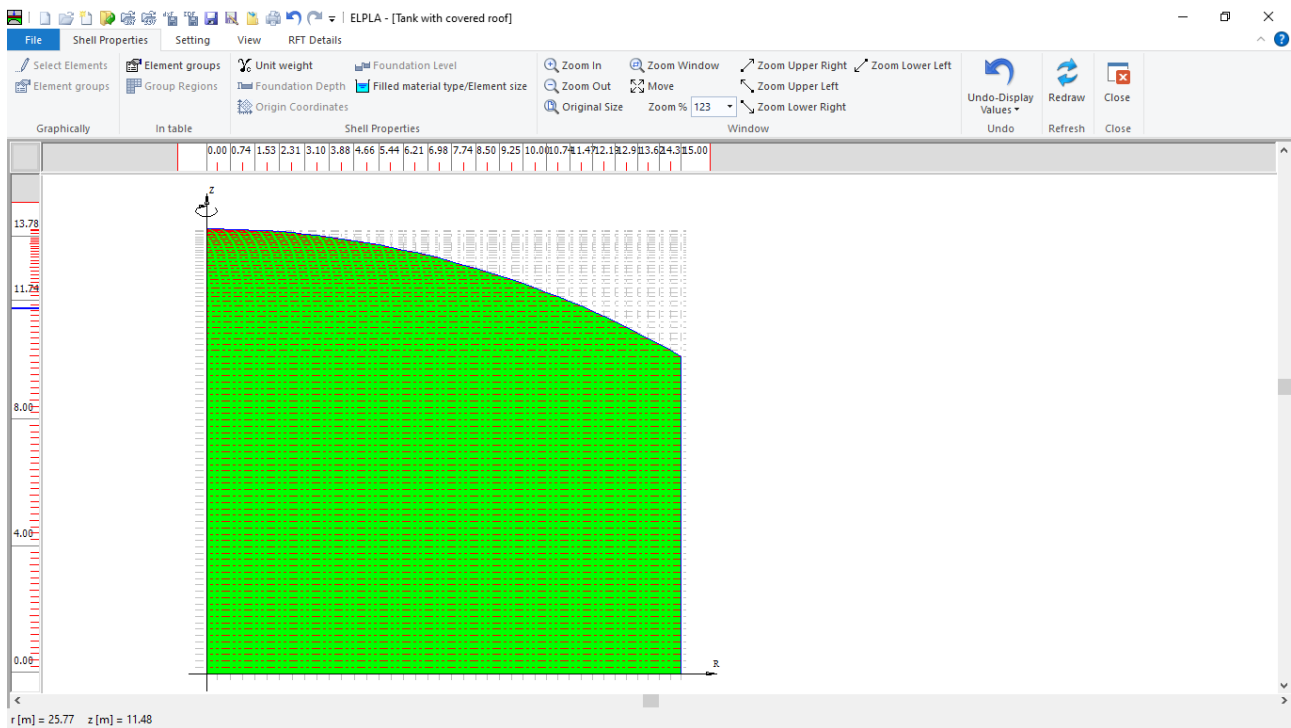
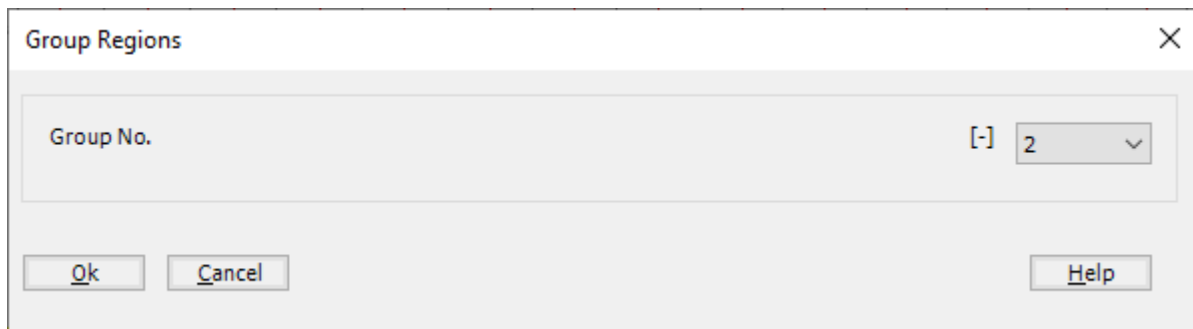
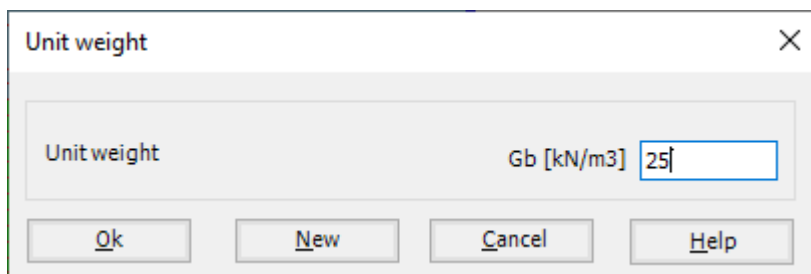

Figure 5.10 "Shell Properties" Window
Figure 5.13 "Group Regions" dialog box
Figure 5.14 "Unit weight" dialog box
To define the tank properties, choose "Shell Properties" command from "Data" Tab. The following window in Figure 5.10 appears with default shell properties. The data of shell properties for the current example, which are required to be defined, are element groups, group regions, unit weight of the tank, and filled material properties.
- Choose "Select Elements" command from "Graphically" menu in the window of Figure 5.10.
- Choose "Elements Groups" command from "Graphically" menu in the window of Figure 5.10, "Group Regions" dialog box Figure 5.13 appears
To enter the unit weight of the tank, choose "Unit weight" command from "Shell Properties" menu in Figure 5.10. The following dialog box in Figure 5.14 with a default unit weight of 25 [kN/m3] appears, click "OK" button.
To define the element size of the shell, choose "Filled material type/Element size" command from "Shell Properties" menu in Figure 5.10. The following form in Figure 5.15 appears.